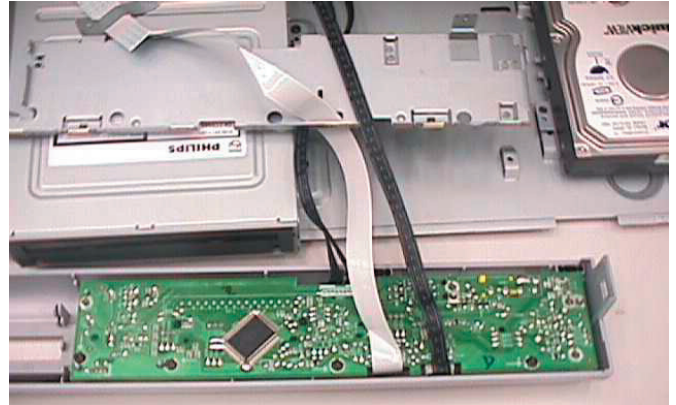

Figure 4-4: Front Board Service position
- 5) Remove 6 screws to loosen the Front plate 184 to reach the Front board service position (see Figure 4-4).